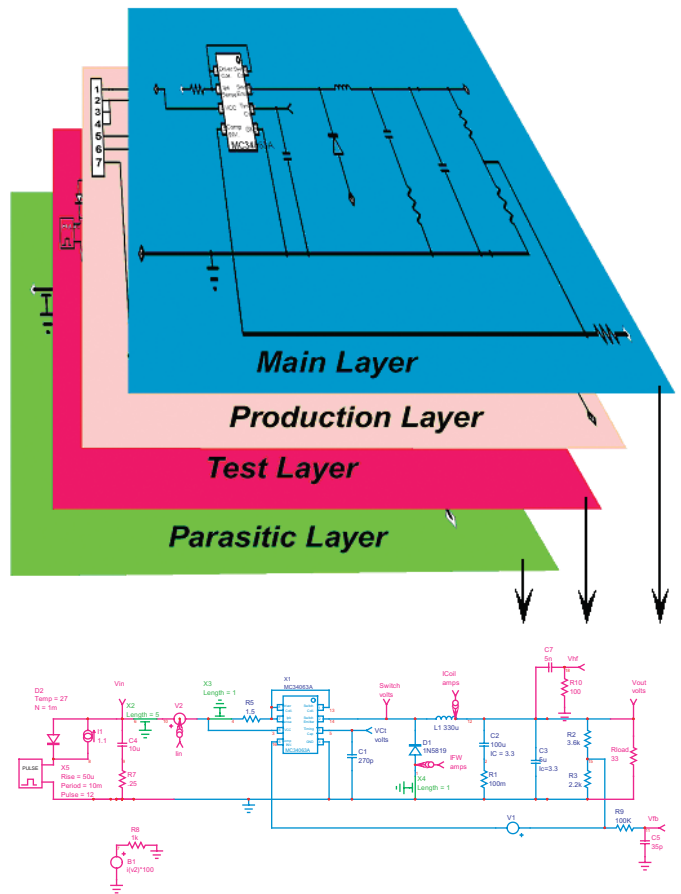

Figure 2: Schematic configured by layers lets test and production configurations share common parts.
1. Creates test configurations made up of combined schematic layers. Special test configurations can be swapped out while using common layers to describe the unit under test (Figure 2).